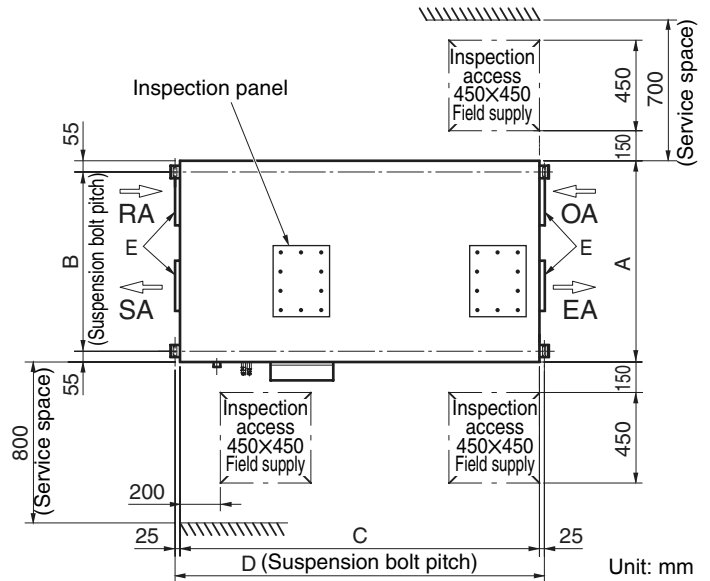

Fig. 3-69a
- The minimum space for installation and service is shown in Fig. 3-69a and Table 3-2.